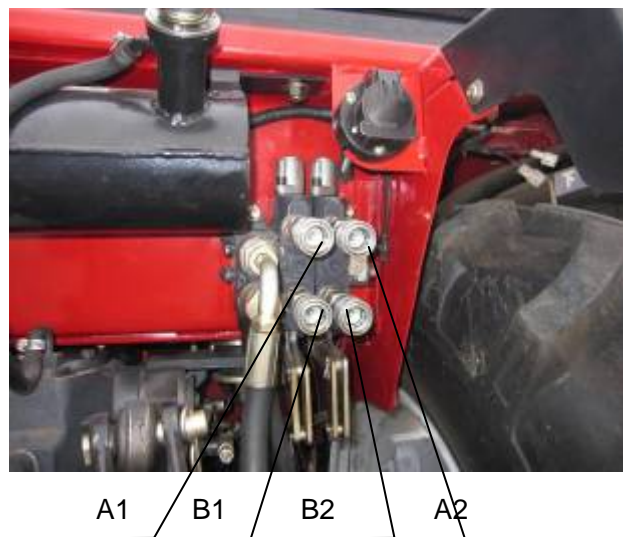

Figure 2-25 Multiway Valve
- Control lever C controls the first hydraulic control loop (quick disconnects A1 and B1 in Figure 2-25).
- Control lever D controls the second hydraulic control loop (quick disconnects A2 and B2 in Figure 2-25).